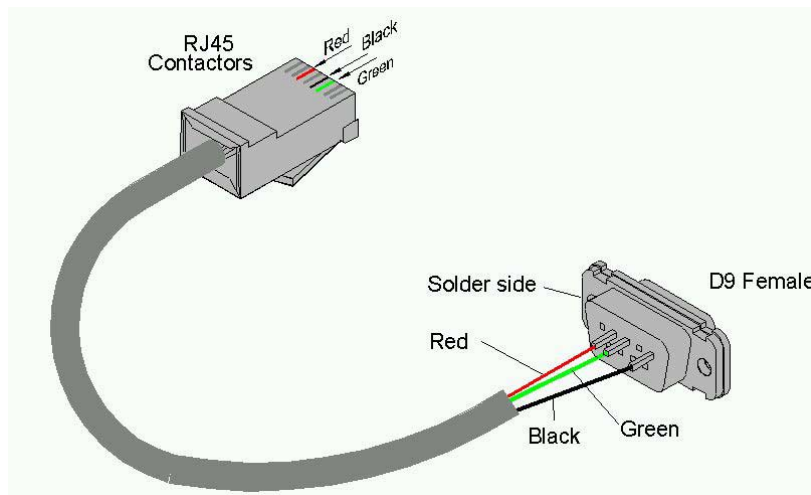

Figure 5-6: BSDU-to-BSPS power management connectors (RJ-45 to 9-Pin D-type cable adapter)
- 9-Pin D-type female (BSDU) to 8-Pin RJ-45 (BSPS) adapter (see Figure 5-6)